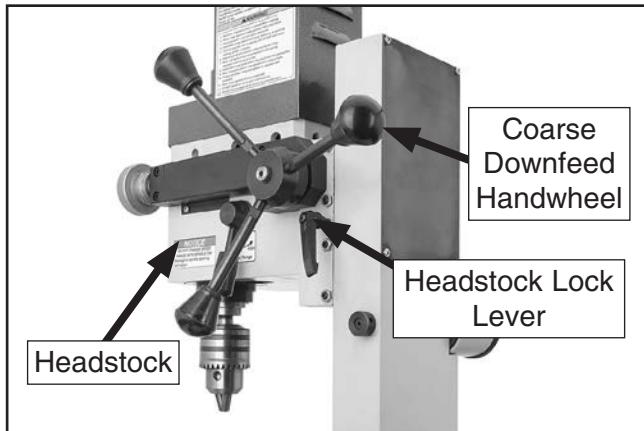

Figure 15. Location of headstock lock lever and coarse downfeed handwheel.
2. Loosen headstock lock lever shown in **Figure 15**.